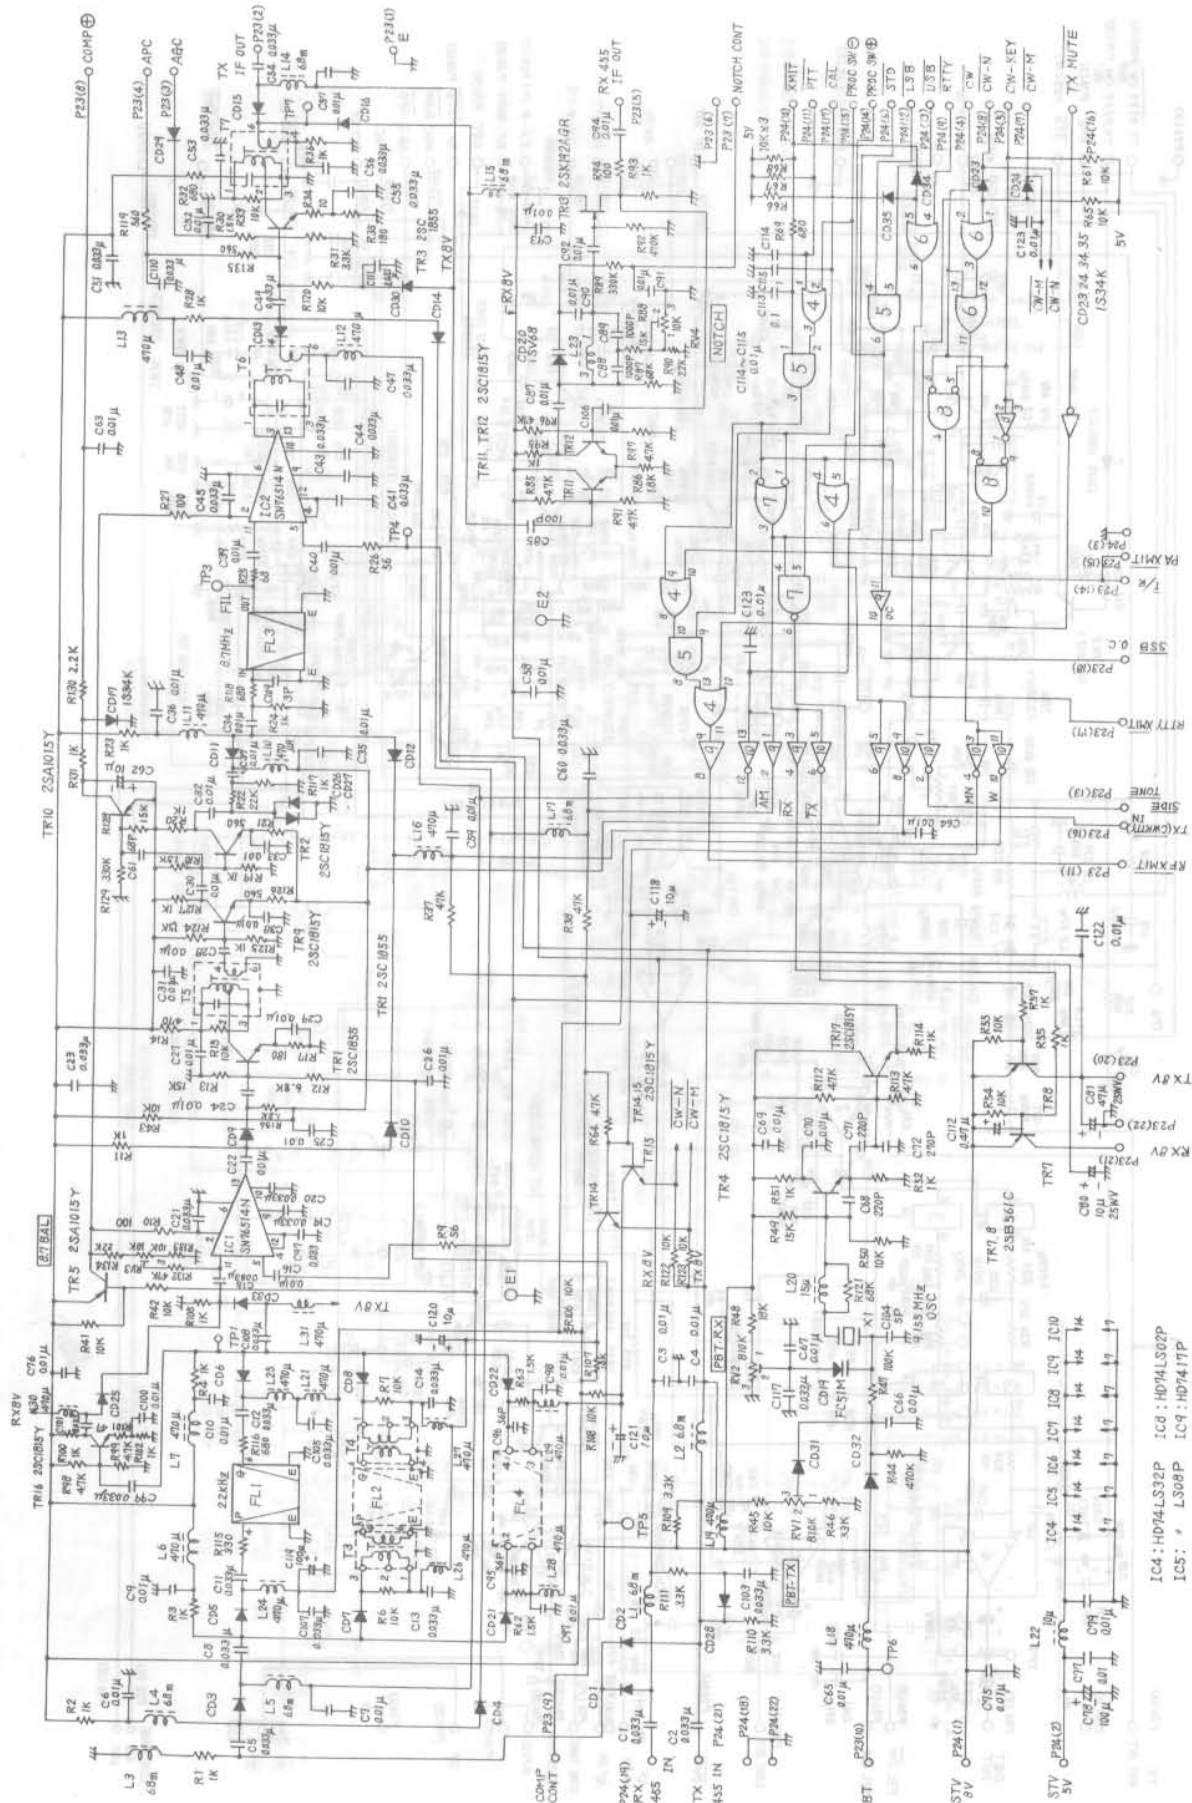

FIGURE 7.4 CAE-137 IF AMP UNIT CIRCUIT DIAGRAM
- FIGURE 7.4 CAE-137 IF AMP UNIT CIRCUIT DIAGRAM